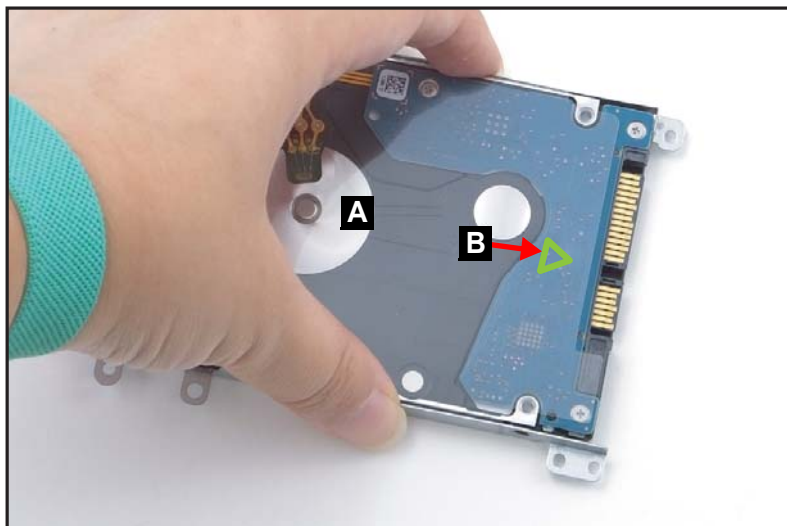

Figure 1-103. Replacing the HDD Module
1. Install the HDD module (A) into its bracket (Figure 1-103).
When installing the HDD module, make sure the marked arrow (B) is facing the correct direction shown in Figure 1-103.